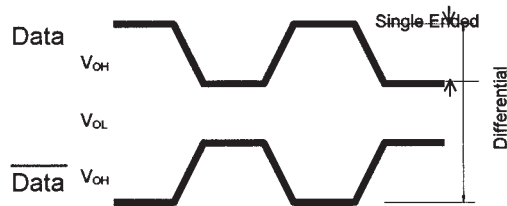

Figure 2 Data Input/Output Logic Level Definitions
- 50 Ω load, measured single ended. Differential operation is necessary for optimum performance. (See Figure 2 for a visual representation)